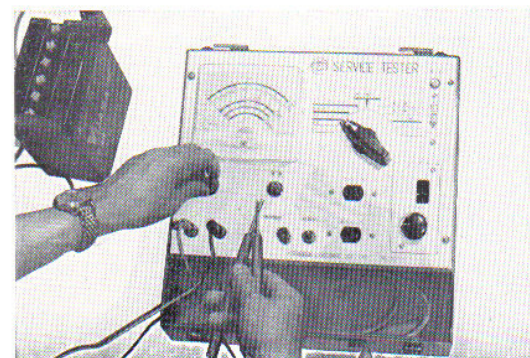

Fig. 5.93 Resistance measuring (zero adjustment)
- (1) Connect to the battery (power source).
- (2) Turn "Resistance" switch ON.
- (3) Short-circuit terminal X test lead wire, turn the scale adjusting knob, and match the meter pointer to "0" on the black scale. (Fig. 5.93)